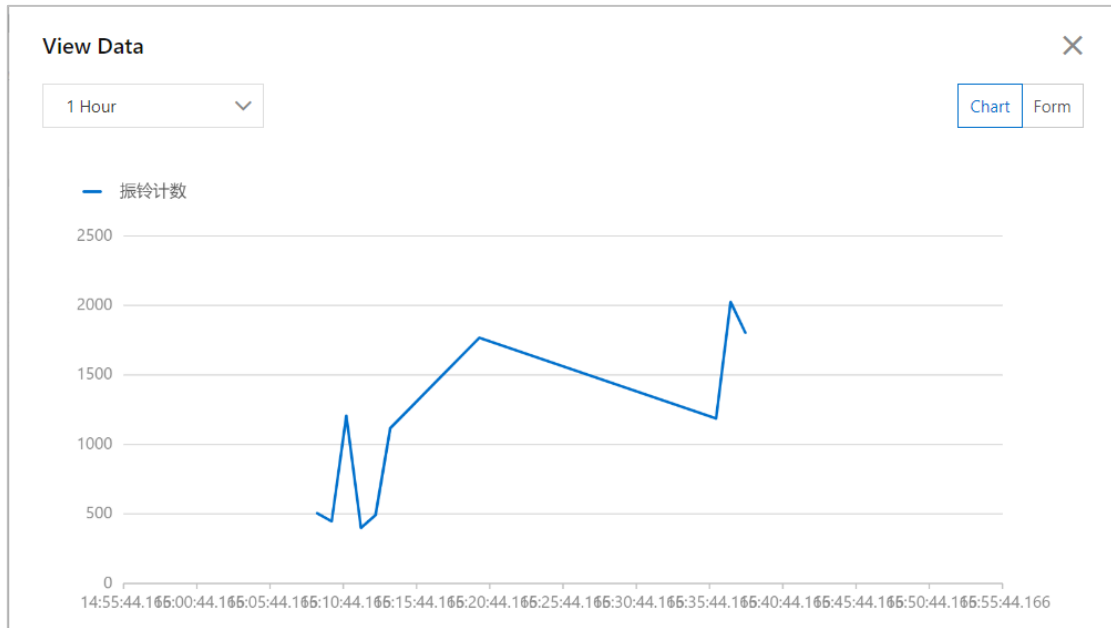

Fig. 6-26 Qingcheng Alibaba Cloud
- (4) There is a **View Data** button on the upper right corner of each parameter block. Click on the button to view the parameter history chart or form. (Figure 6-26)